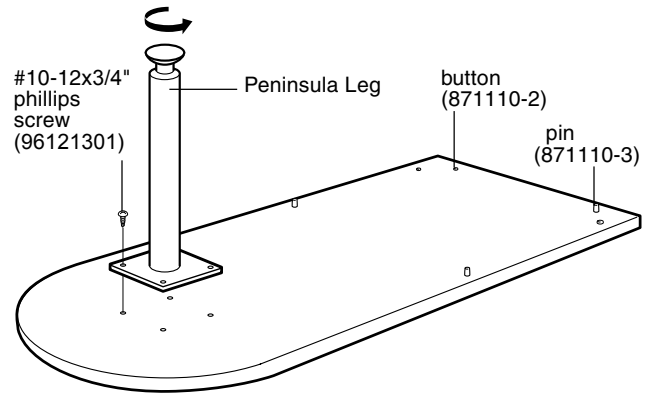

Figure 1
1. Lay surface upside down. Align Peninsula Leg with the predrilled holes at round end in surface bottom and attach with four (4) #10-12 x 3/4" phillips screws provides. Adjust leg height accordingly. (Figure 1)